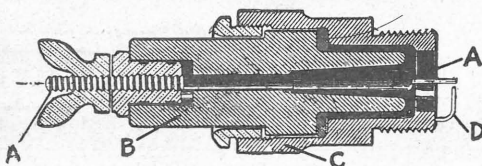

Fig. 2.—The parts of a sparking plug
With high-tension ignition, as with low-tension, we can use the engine itself as one "wire," that is, as an "earth return." All we have to do, therefore, is to lead a very well-insulated rod or wire into the cylinder, and let it spark against the cylinder itself. For this purpose a "sparking plug" is used (see Fig. 2). There is a central rod (A), with a terminal at its top, to which high-tension current is supplied. It is insulated by porcelain (china) or mica (B), and outside this insulation is a steel nut (C), which is screwed into the cylinder. On the end of this nut is a short projecting piece (D), which is brought close to the end of A, as shown. This gap, called the "spark gap," is quite small, about wide enough to take one's thumb nail,